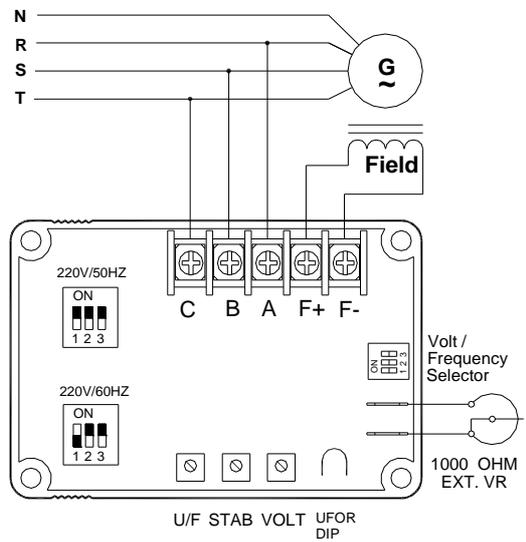
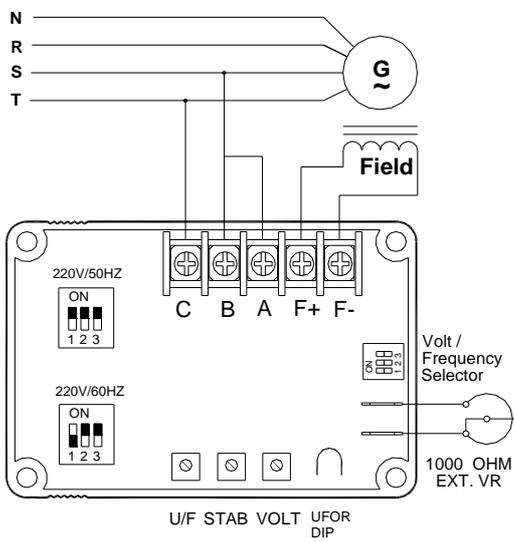

Figure 2
Figure 3
1. When the rated phase voltage of the generator is 220VAC, the input terminals B, C and sensing terminals A, C can join together (as show as Figure3. It's the original setting).or connect independent.(as show as Figure2).
| | B,C,F+,F- wires are not connected well. | Please refer to Figure 2 ~ Figure 5. |
| Out voltage low | The input wiring of A,B,C are not correct. | Please refer to Figure 2 ~ Figure 5. |
| Fuse blown | The exciter flash is too large or wiring doesn't connect well. | Please refer to the Generator Manual. Please refer to Figure 2 ~ Figure 5. |
| Out voltage high | A,C terminals are not connect or wiring incorrect. | Please refer to Figure 2 ~ Figure 5. |